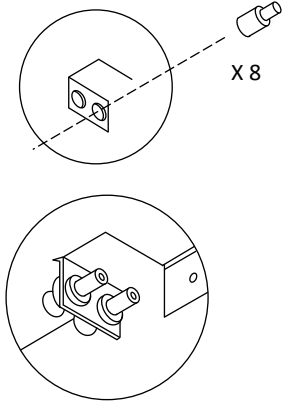

Fig 3
1. Attach wire clamps into ceiling bracket (Fig 3).